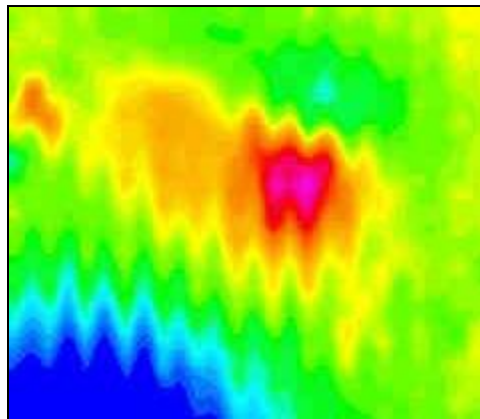

**Figure I.1 Example of Chevron Affect**
- c. Lag (and Offset) Corrections. Lag effects are visible in gridded data as chevron patterns or wavy edges of anomalies, see Figure I.1. Lag is caused by a time delay in instrument response and the recorded position. Determining the shift is done by measuring the distance between equivalent points of an anomaly on neighboring lines and dividing this value by two. A negative lag will shift the data forward in time (for the sensor trailing the logger) and a positive lag shifts the data back in time (for a sensor leading the logger).